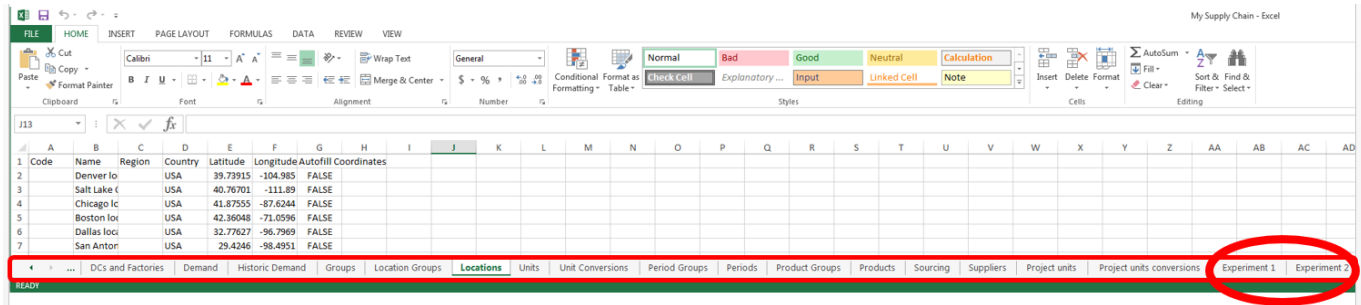

Figure 16: There are many tabs in an actual importing scenario...
6. Un-toggle “Import Experiments”. (In a full fledge Excel Spreadsheet, there will not only be 2 tabs... there will be many tabs....see Figure 16... and there be a few “Experiment Tabs” at the end... these are the Experiments that we do not wish to import).